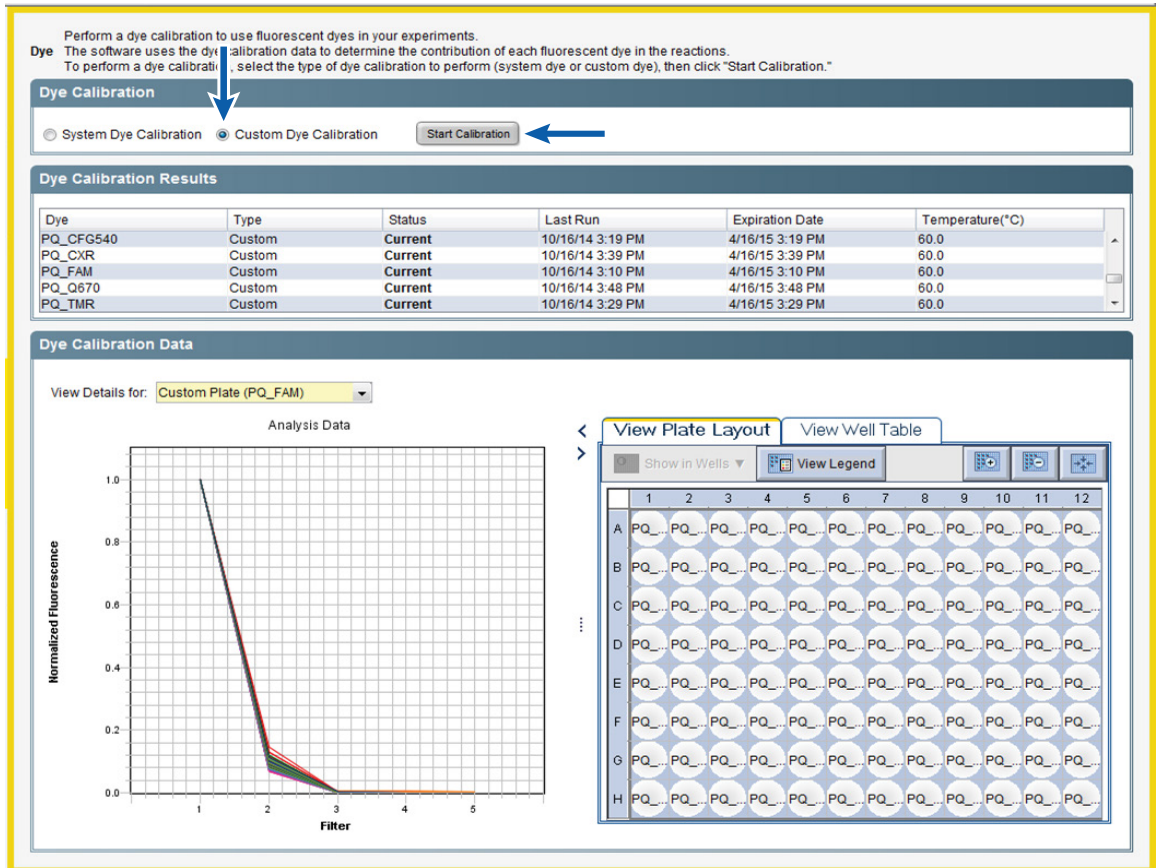

Figure 1. The Custom Dye Calibration option and Start Calibration button.
6. Choose “Custom Dye Calibration”, and select **Start Calibration** (Figure 1).
- FAM should give highest signal in Filter 1, CFG540 should give highest signal in Filter 2, TMR should give highest signal in Filter 3, Q670 should give highest signal in Filter 5 and CXR should give highest signal in Filter 4. Figure 1 shows an example of a dye calibration spectrum (PQ_FAM) across all five filters. Representative images of dye calibration spectra for all the five dyes are shown in Appendix 12.B.